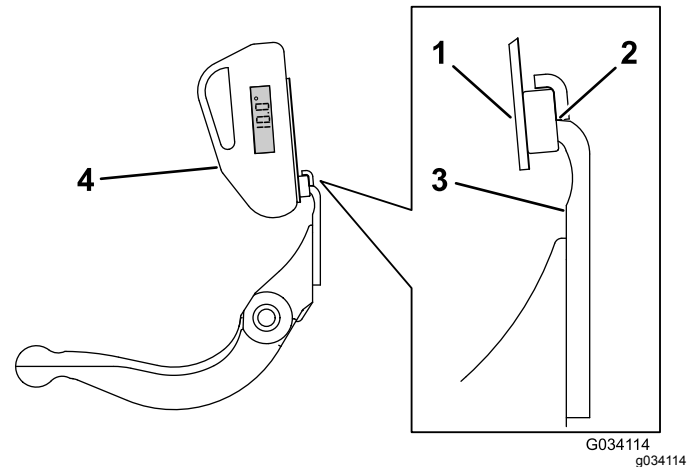

**Figure 12**
1. Place the angle indicator on the bottom side of the bedknife as shown in Figure 12.